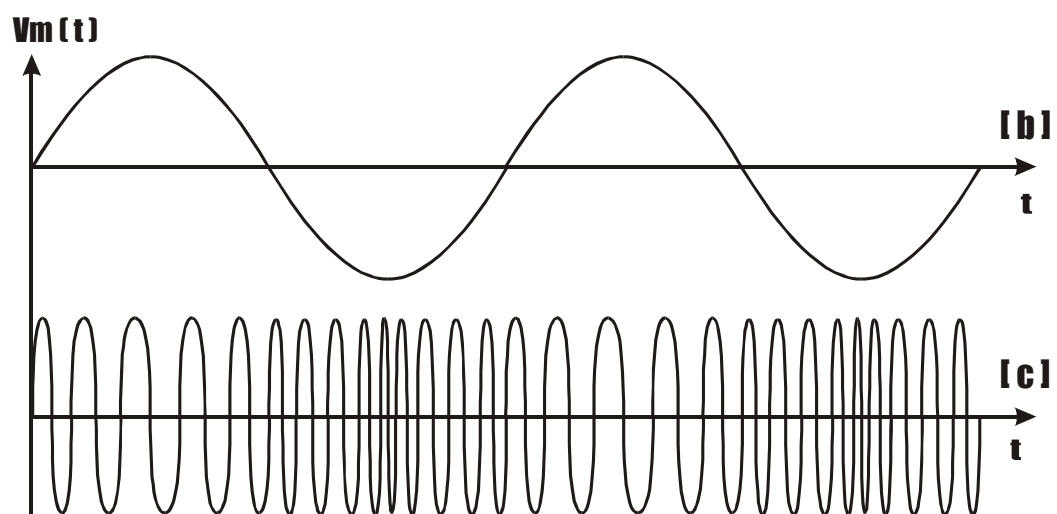

FIG. 5.10
- Then observe the FM signal as shown in **FIG. 5.10**.